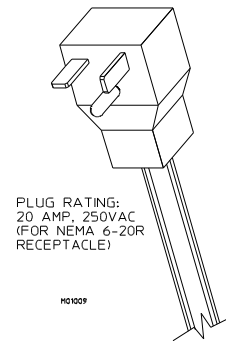

Figure 3-1
2. This freezer requires a protected 20 amp 208/230 volt circuit. Connect the freezer to a circuit separate from any other electrical equipment. The power cord on this freezer connects to a NEMA 5-20R receptacle. See Figure 3-1.